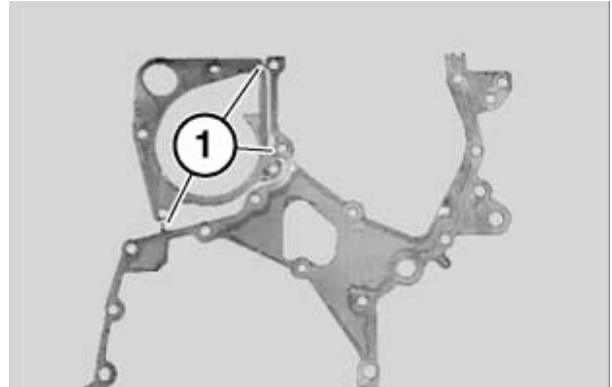

Figure 5-85
12. If the coolant pump has not been removed, cut the gasket at the three tabs (**Figure 5-85, (1)**), and remove timing case cover portion of gasket.